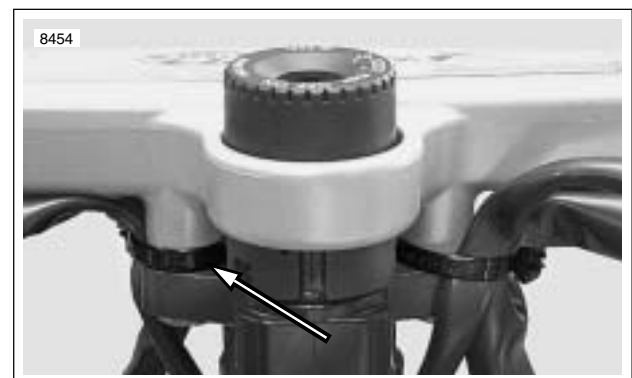

Figure 2-96. Cable Strap On Left Side of Upper Fork Clamp
8. See Figure 2-96. Cut cable strap from left side of upper fork clamp.
5. Install clutch hand lever (4) in hand lever clamp (2) and tighten hand lever pinch fastener (3) to 39-48 **in-lbs** (4-5 Nm).
6. Position hand lever (4) to rider preference and tighten hand lever clamp pivot fastener (1) to 36-60 **in-lbs** (4-7 Nm).
7. Connect clutch cable ferrule (9) to hand lever clamp (2).
8. See Figure 2-96. Install cable strap holding safety interlock switch and left switch housing on left upper fork. Do not over tighten cable strap.